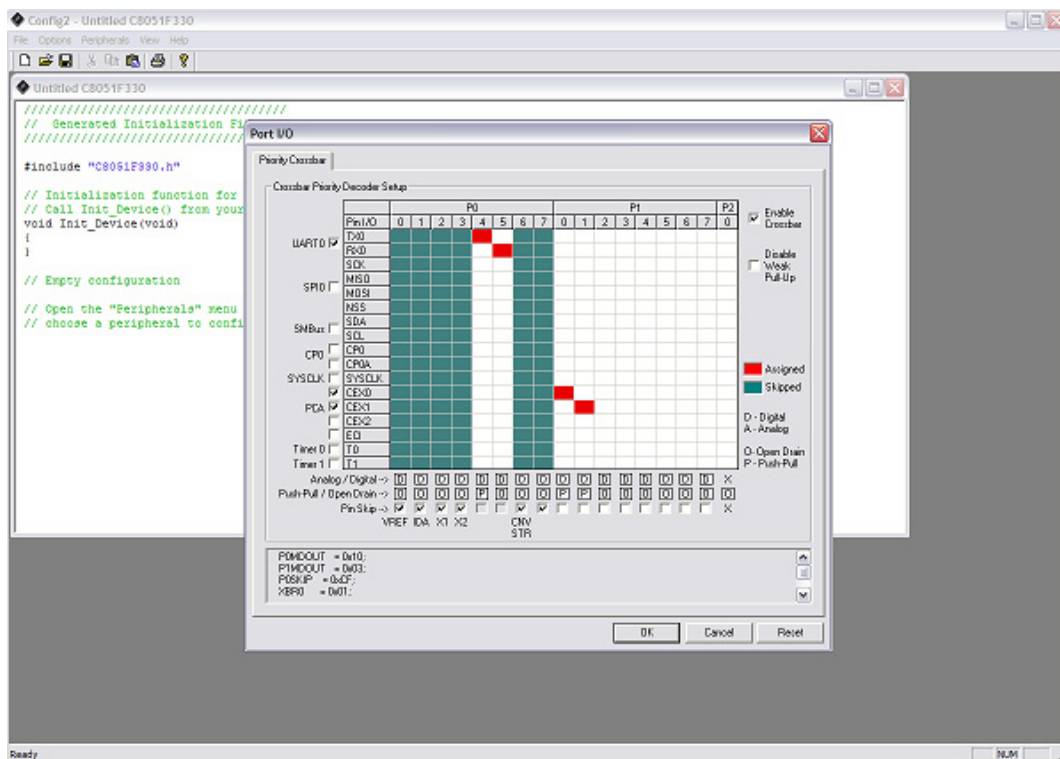

Figure 1. Configuration Wizard 2 Utility
Configuration Wizard is a code generation tool for all Silicon Laboratories devices. Code is generated through the use of dialog boxes for each device peripheral as shown in Figure 1.
See Figure 1 for a diagram of the hardware configuration.
3. Place shorting blocks on J7 and the +3VD-VDD_PWR jumper pair on J6, as shown in Figure 1.